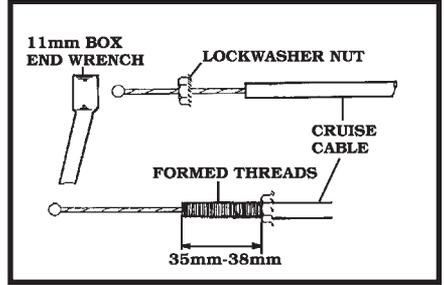

Figure 20
1. To use the **SNAP-IN ADAPTOR**, it will be necessary to form threads on the end of the **CRUISE CABLE**. This is easily accomplished by placing the **LOCKWASHER NUT** on the end of the **CRUISE CABLE** with your fingers. Then using an **11mm** box end wrench and turning clockwise until the desired amount of threads have been formed. **Figure 20**
3. Before using the **LOCKWASHER NUT**, remove the Adjustable sleeve from the **CRUISE CABLE**. Then use the **LOCKWASHER NUT** to form threads on the end of the **CRUISE CABLE**. This is easily accomplished by placing the **LOCKWASHER NUT** on the end of the **CRUISE CABLE** with your fingers. Then use an **11mm** box end wrench and turn clockwise until the desired amount of threads have been formed **Figure 20**.
1. Before using the **FLAG NUT**, it will be necessary to form threads on the end of the **CRUISE CABLE**. This is easily accomplished by placing the **LOCKWASHER NUT** on the end of the **CRUISE CABLE** with your fingers. Then use an **11mm** box end wrench and turn clockwise until the desired amount of threads have been formed. *Figure 20, Page 15*